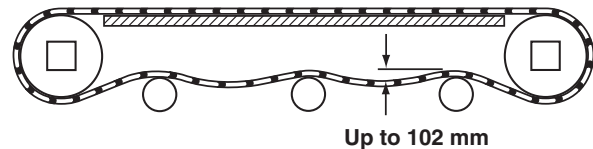

Figure 45
- Check belt sag by measuring from the top of the return (Figure 45). Belt sag should not exceed 102 mm. Follow steps 7 – 9 in the “Belt Installation” section on page 15 to remove slack from the belt.